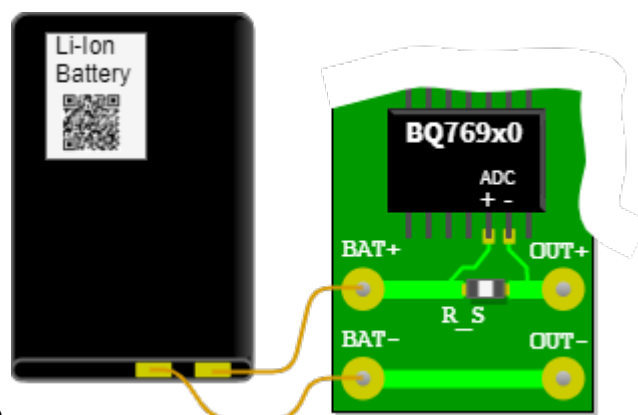

Fig. 32: Sketch of the setup
- The battery monitor BQ769x0 measures the charge and discharge currents of a lithium-ion battery by means of the voltage across a measuring resistor (shunt). In figure 32 the analog-to-digital converter (ADC) of this chip is connected to the shunt  $R_S$  via the circuit board. Through the shunt the discharge current flows from the battery